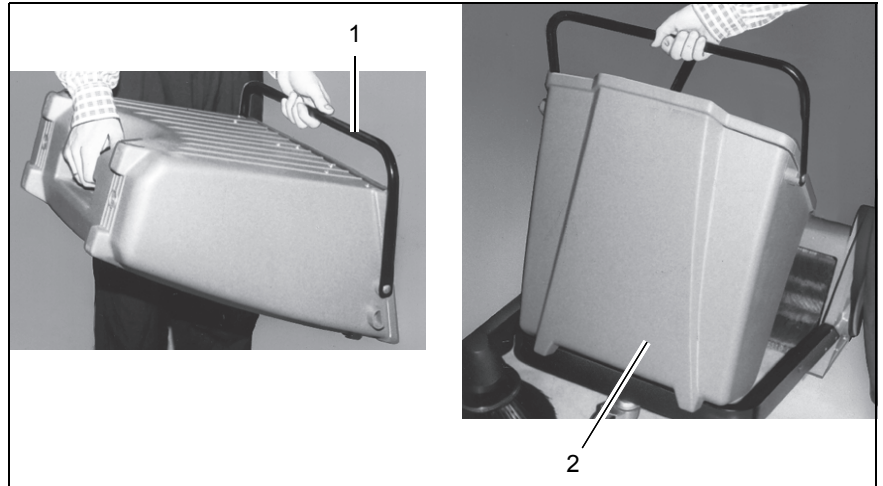

Fig. 4
1. Lift the hopper upwards by the handle. Dispose of the contents in an environmentally friendly way (Fig. 4/1).
Place the hopper on the front frame and swing it down (Fig. 4/2).